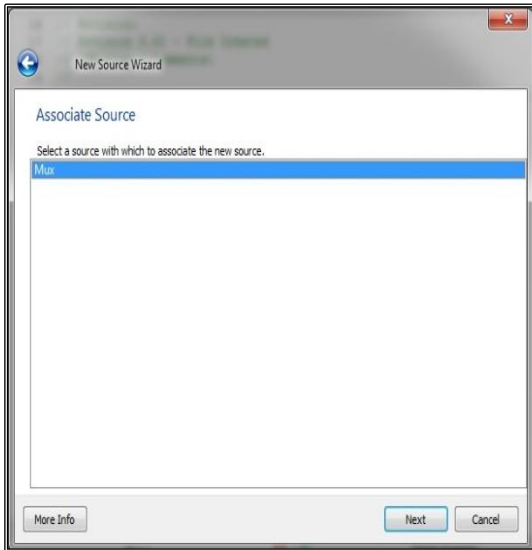
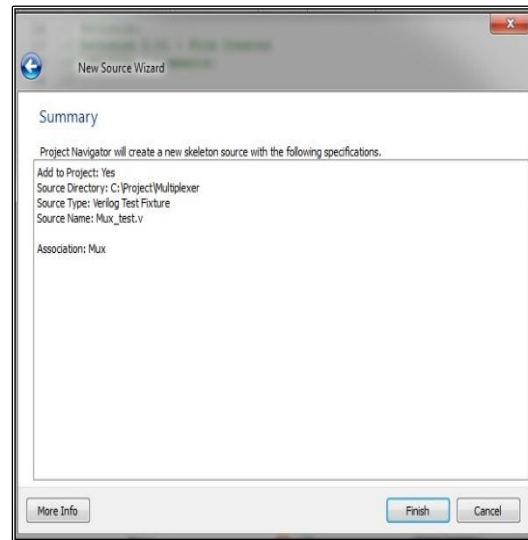

Fig 2.14: Associate Source
Fig 2.15: Testbench Summary
14. In the next window, select the source file to which you want to associate the test bench (Fig 2.14). Click **next**, check the summary and click **Finish** (Fig 2.15).